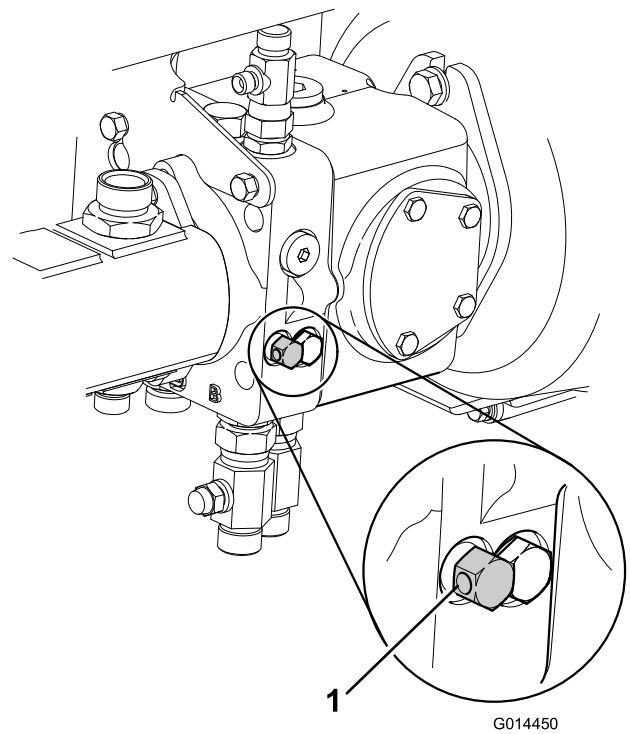

Figure 61
7. De-commission the hydraulic service braking system by turning the bypass valve, located under the transmission pump, anti-clockwise, a maximum of three turns (Figure 61).